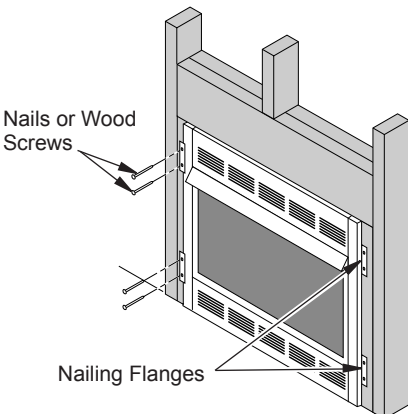

Figure 16 - Attaching Fireplace to Wall Studs
13. Attach fireplace to wall studs using nails or wood screws through holes in nailing flange (see Figure 16).